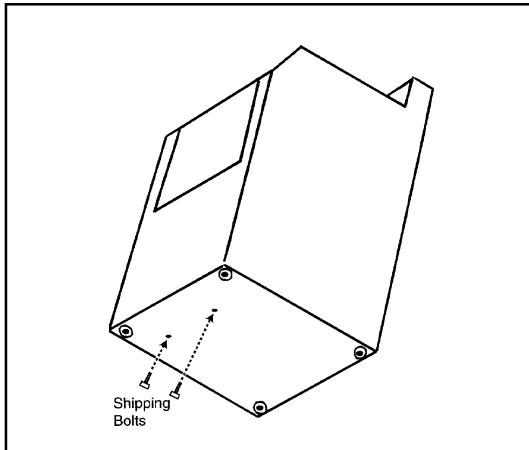

Figure 1-4
3. Locate the two (2) $1\frac{1}{2}$ " hex head shipping bolts extending up through the bottom of the base (*Figure 1-4*). The shipping bolts are near the center of the base toward the front of the washer. Remove both bolts, freeing the tub and suspension. Do not be alarmed should the tub assembly shift when the last bolt is removed. Some shifting of the tub is normal.